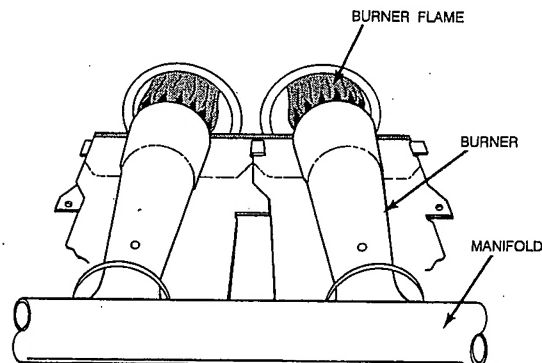

Fig. 11—Burner Flame
19. Check furnace operation through 2 complete operating cycles. Look through sight-glass in burner enclosure to check burners. Burner flames should be clear blue, almost transparent. (See Fig. 11.)